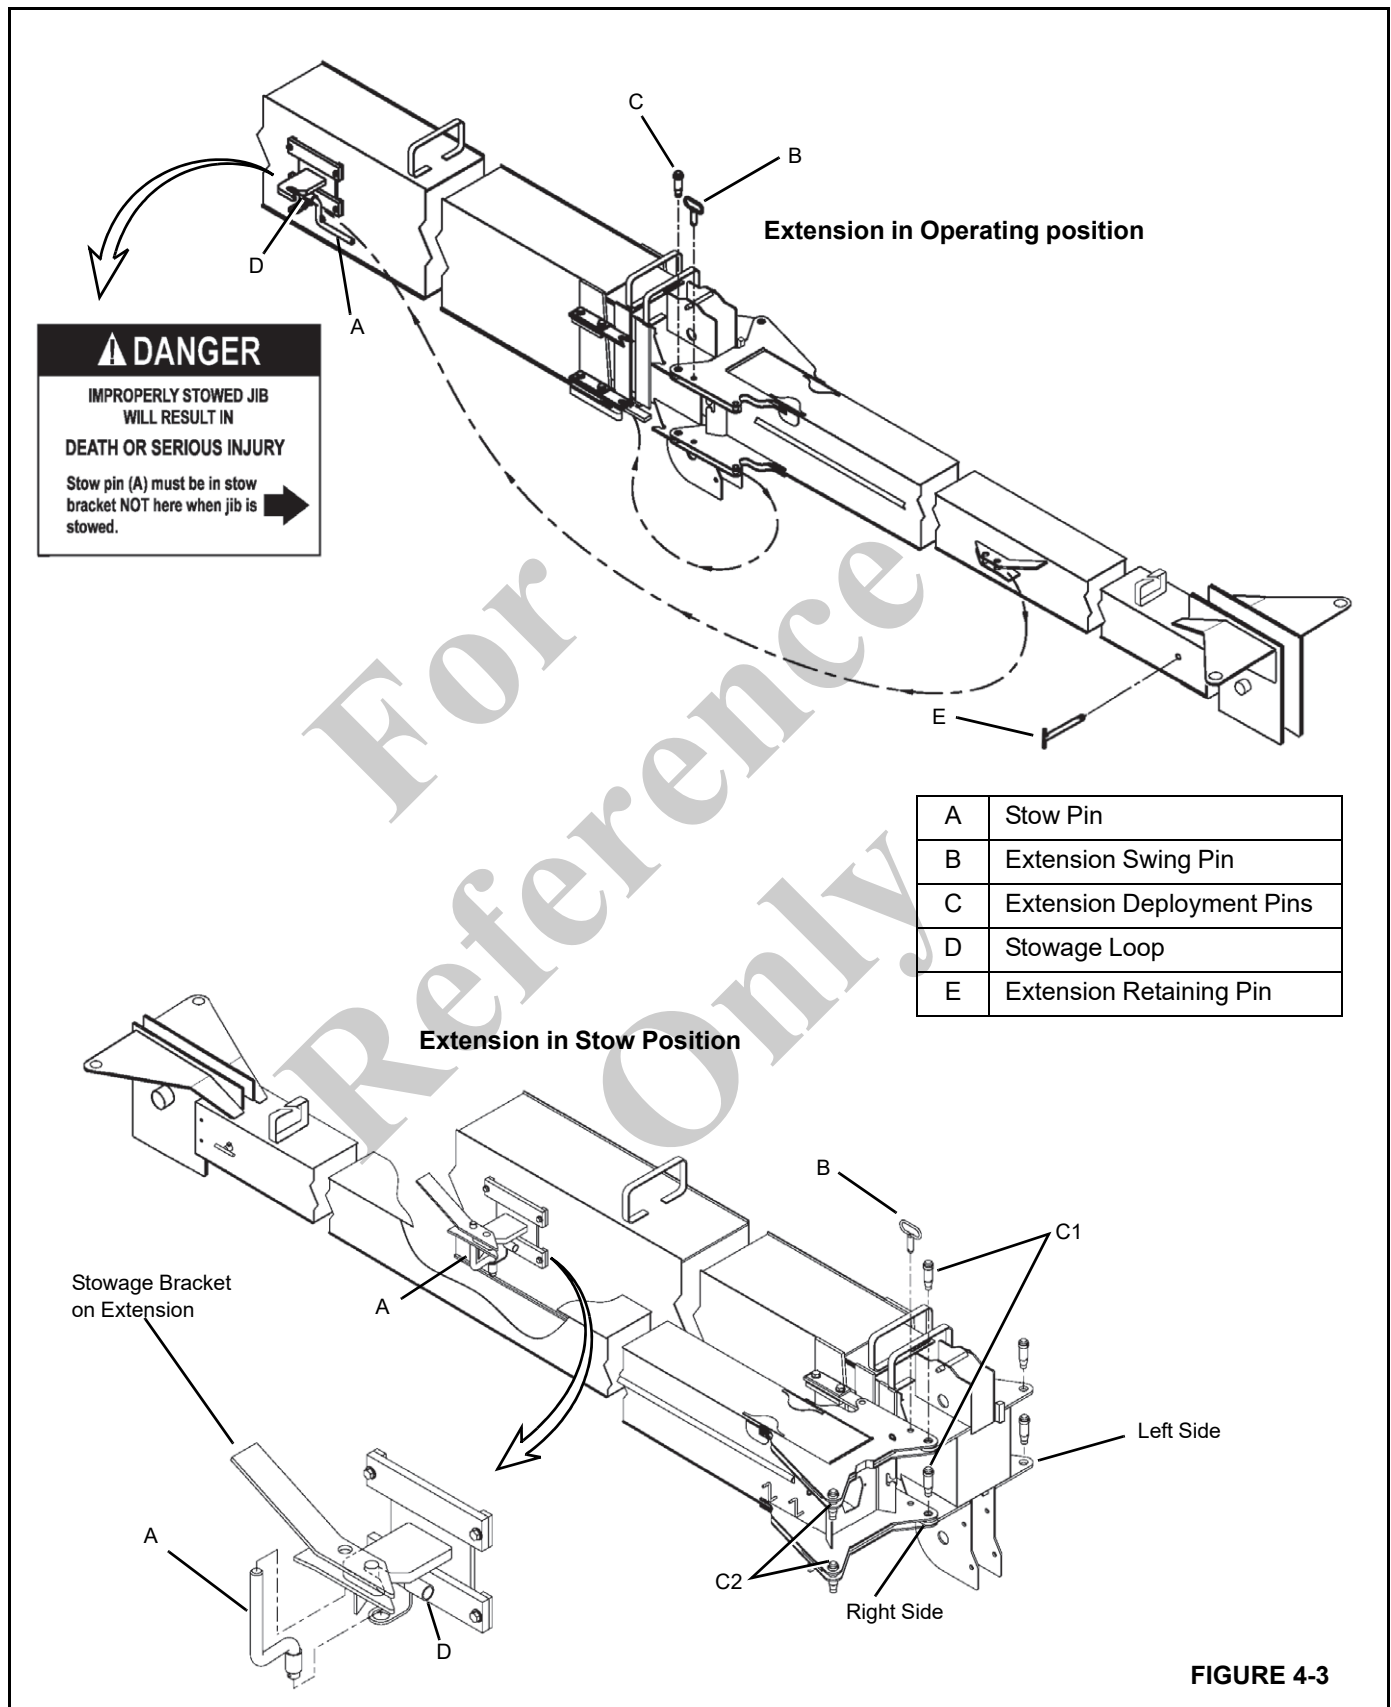

FIGURE 4-3
5. Ensure extension is stowed correctly (Figure 4-3):
2. Using lift function, lower boom so that extension deployment pins C1 (Figure 4-3) and C2 are easily accessible from the ground.